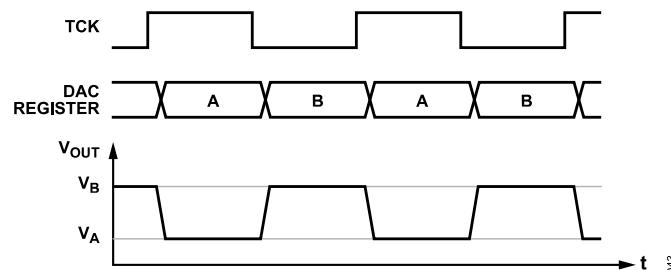

Figure 54. TCK Timing
When the TCK signal is high the DAC outputs a voltage ( $V_A$ ) corresponding to Input Register A, and when TCK is low, the DAC outputs a voltage ( $V_B$ ) corresponding to Input Register B (see Figure 54). The toggle function can be disabled by writing 0x0000 to the toggle/dither enable register (Command 11).
7. Apply the toggle clock signal to the TGP2 pin. The DAC output voltage changes on the rising and falling edges of the toggle clock signal as shown in Figure 54.